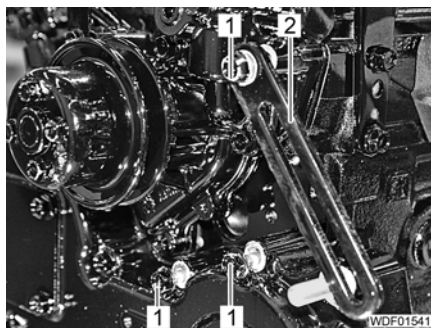

Fig. 110 Mountings for alternator
- Unscrew 3 bolts (Fig. 110,1) and remove clamp bracket (Fig. 110,2).